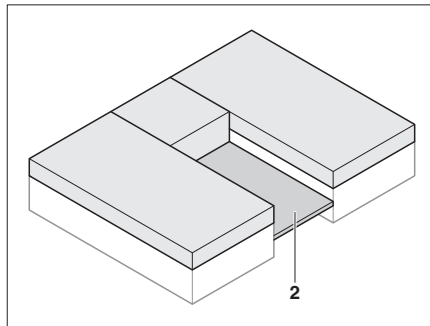

Fig. 75 Pull out slatted frame
- Pull out the slatted frame (Fig. 75,2) between the single beds.